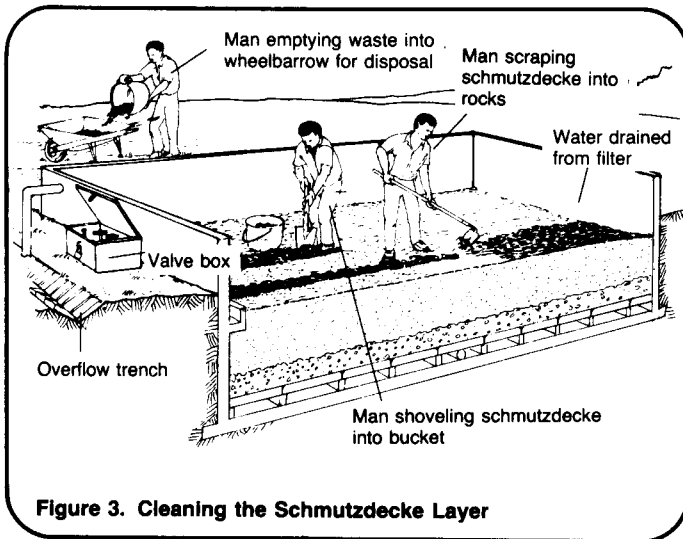

Figure 3. Cleaning the Schmutzdecke Layer
- As soon as the top layer of the filter is exposed, begin removing it using flat-nosed shovels. Carefully remove the schmutzdecke and the surface sand sticking to it by stripping it off and piling it into heaps. Remove as little sand as possible, not more than 20 to 30mm. Remove the waste with wheelbarrows or large baskets or buckets. See Figure 3.